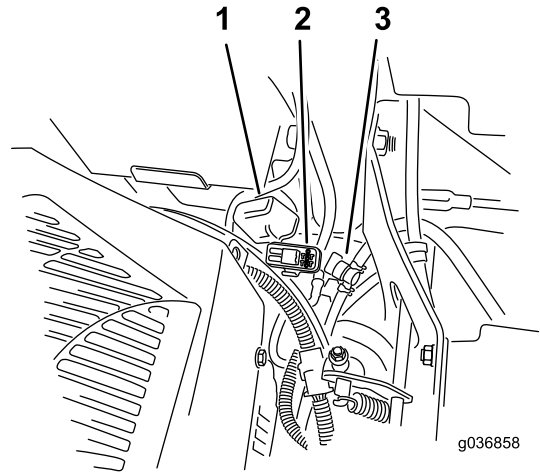

Figure 73
Note: For MyRide machines, ensure that the ground cable does not rub against the trailing arm or lower shock mount (Figure 73).
The fuses are located on the right console next to the seat (Figure 73).
2. Install a new fuse (Figure 73).